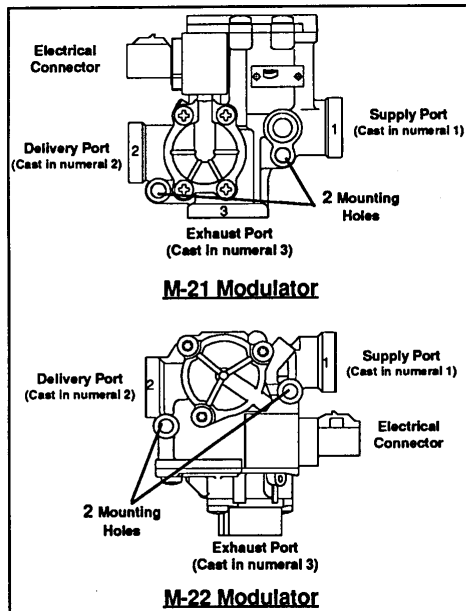

Figure 1 M-21 and M-22 Antilock Modulators
1. Study figures 1 & 2 and note where the exhaust port is located on both the M-21 and M-22. The exhaust on both modulators must be directed toward the road surface when mounted on the vehicle.